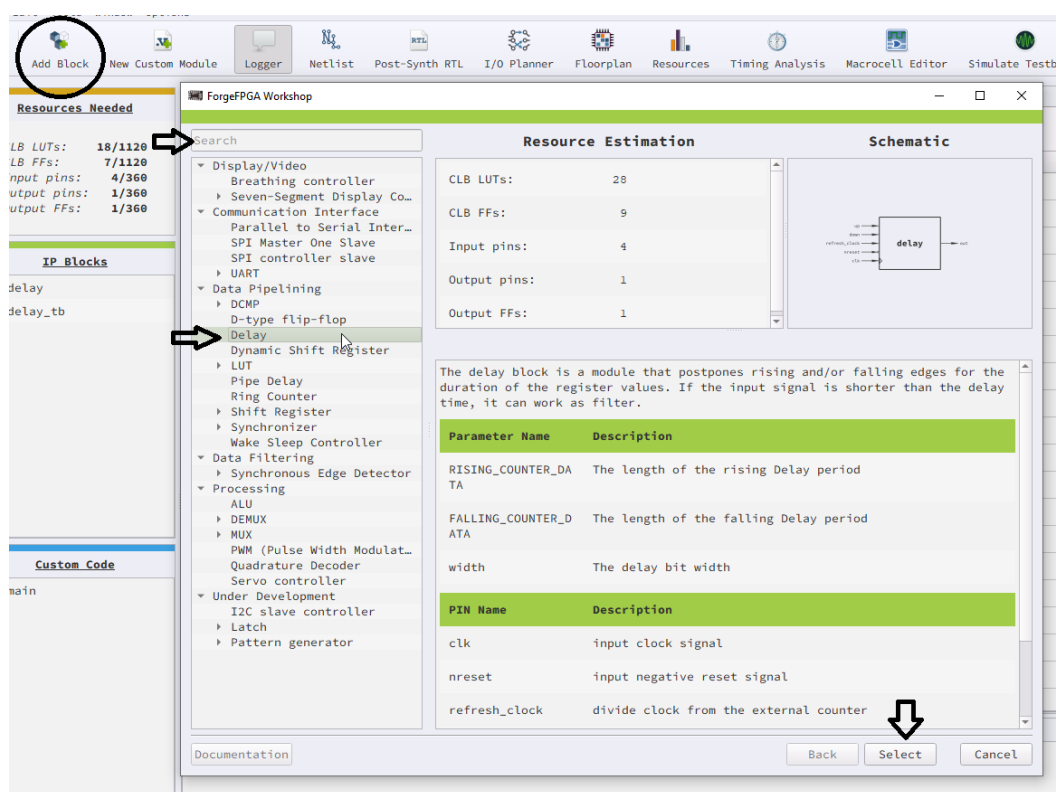

Figure 7: How to add Delay IP Block
12. This Delay IP Block is also inbuilt in the ForgeFPGA Software and can be launched by clicking the "Add Block" Button on the top left corner of the FPGA Editor. That will open a list of inbuilt IP Blocks we have in the software. User can then select the Delay Block under the "Data Pipelining" option by typing it in the search bar (see Figure 7).